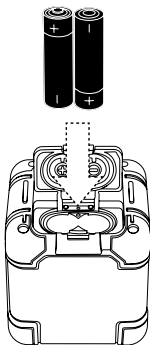

FIGURE 1
- Insert the batteries according to polarity and replace the battery cover door (Fig.1 & Fig.2).